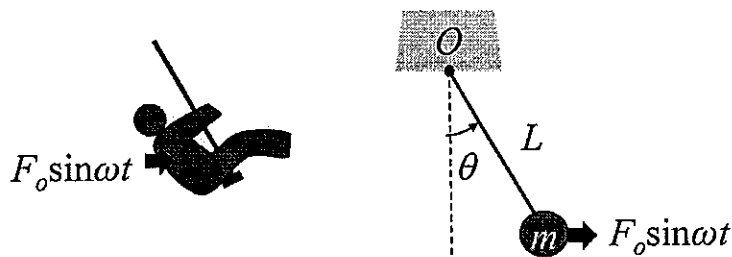

Figure 6
- (b) Figure 6 shows a boy sitting on a swing and being pumped (pushed) by a harmonic force $F_o \sin \omega t$ where F_o is the force amplitude and ω is the angular frequency of pumping in the horizontal direction. This forced oscillation can be modelled by a simple pendulum which consists of a lumped mass m swinging at a distance L from the pivot.